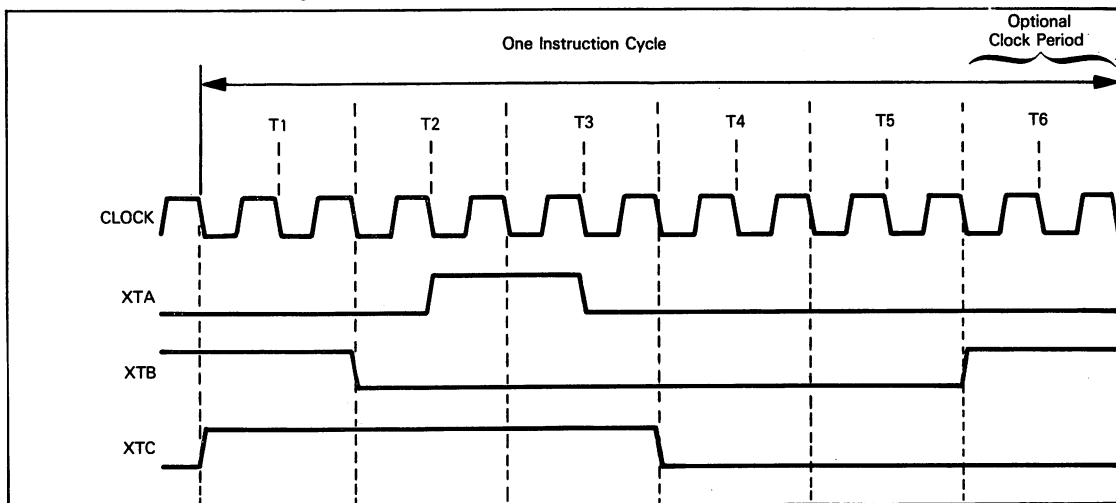

Figure 13-3. IM6100 Machine Cycles and Clock Periods
**XTA, XTB and XTC are three timing signals which are output for external logic to identify the state of an instruction's execution.** Timing and states are illustrated in Figure 13-3.
**An IM6100 instruction's execution is timed by a sequence of machine cycles,** each of which is subdivided into clock periods. A machine cycle may have five or six clock periods. Machine cycles and clock periods are identified by the CLOCK, XTA, XTB, and XTC signals, **as illustrated in Figure 13-3.** Note that each clock period consists of two external clock cycles.
An IM6100 "no operation" machine cycle may have five or six clock periods. Only the XTA, XTB and XTC signals change levels during a no operation machine cycle, therefore Figure 13-3 (excluding the sixth clock period) illustrates a no operation machine cycle.